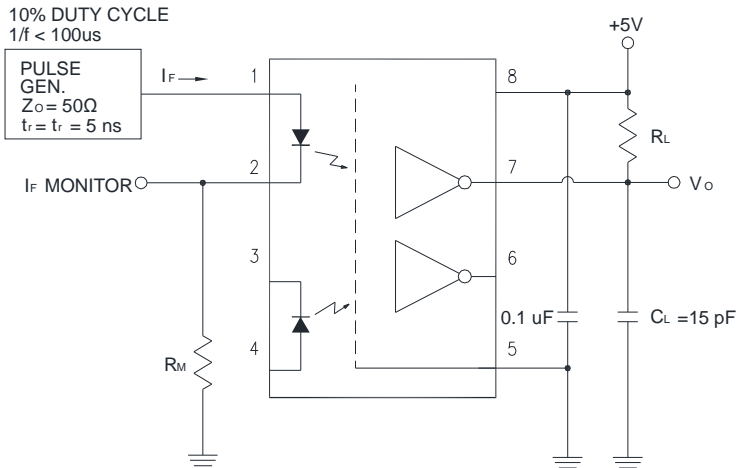

Figure 1: Test Circuit for t_{PHL} and t_{PLH}
1. A $0.1\mu\text{F}$ or bigger bypass capacitor for V_{CC} is needed as shown in Fig.1